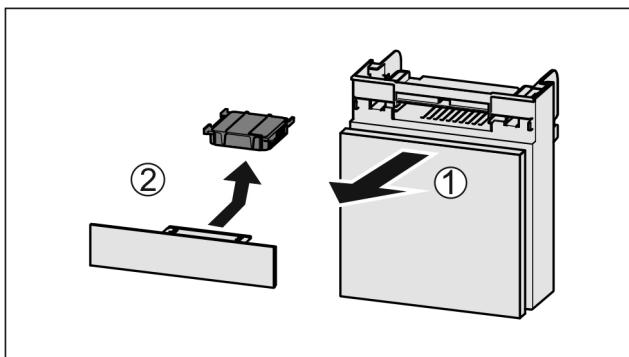

Fig. 169
- ▶ Pull out the compartment *Fig. 169 (1)*.
- ▶ Remove the carbon filter *Fig. 169 (2)*.